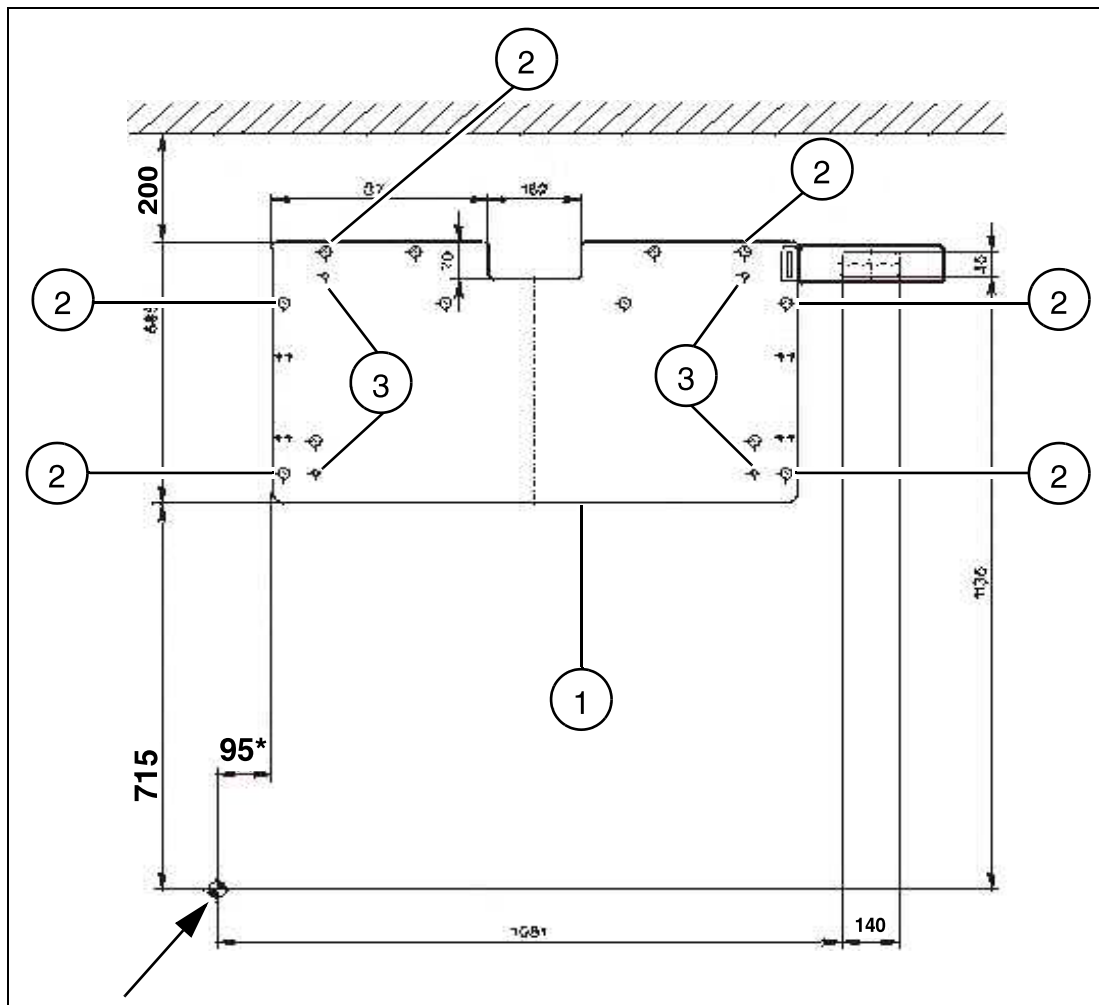
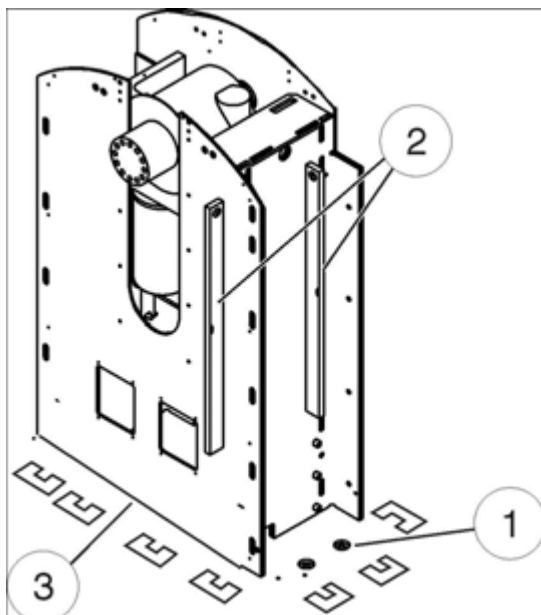

Fig. 3: Left-hand version of the base plate
Fig. 4: Base plate
The 4 Allen screws M 12 x 40 mm (3/Fig. 3 / p. 12) are required for leveling the lifting base.
- Mark the orientation point on the floor according to the project plan (see arrow, (Fig. 3 / p. 12)).
- Position the drilling template (1/Fig. 3 / p. 12) according to the orientation point and mark the positions of the 6 holes (2/Fig. 3 / p. 12).
- Screw in the leveling screws (M12 x 40) (3/Fig. 3 / p. 12) and align the lifting base with the aid of a level (2/Fig. 4 / p. 13).
- Place the supplied shims as required underneath the outer edges of the base plate (3/Fig. 4 / p. 13).
- Loosen the leveling screws (3/Fig. 3 / p. 12).
- Tighten the anchors or screws to check the leveling. Use a level to check the levelling (2/Fig. 4 / p. 13), if necessary add or remove shims until the base plate is longitudinally and horizontally in the 0° position.
- Only when leveling is correct in a tightened state can the safety anchors be tightened with a torque of **80 Nm** (1/Fig. 4 / p. 13).